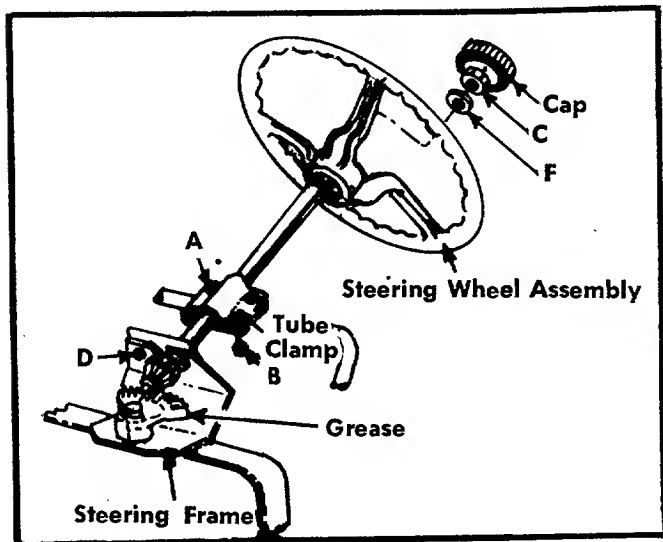

FIGURE 4. STEERING WHEEL ASSEMBLY
Step 5. Place steering wheel on steering wheel assembly. Secure with Belleville washer (F) and hex nut (G). Push on steering wheel cap by hand. See figure 4.
Step 6. Place the steering wheel assembly so it rests in the notch in the steering frame and the gears mesh. Be sure the steering wheel is straight. Secure the steering wheel assembly with two screws D provided in the assembly pack. See figure 4.
Step 7. Place one of the two tube clamps on the steering column and the other on the steering frame. Fasten with four screws A and nuts B. Tighten the four screws evenly so the clearance between the four edges of the tube clamps are even. See figure 4. Lubricate the gears with an automotive multi-purpose grease.